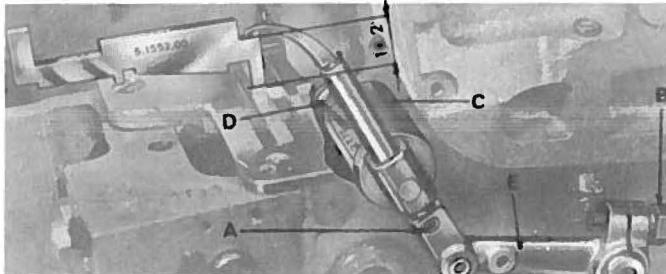

fig. 9
- When the secondary looper has completed its stroke to the left, the distance from the bottom of the looper point to the needle point is  $25/64$  inch (fig. 9).
- Place timing gauge N. S.1552.00 on needle plate as shown in fig. 9.
- To adjust, loosen screw B (fig. 9) and move looper lever E (fig. 9) up or down until looper is set properly.
- Loosen screw B and A (fig. 9).
- With the needle on its downward stroke and the secondary looper starting to move to the right, the ball of the secondary looper touches the needle slightly without deflection. This is accomplished by loosening screws D and B (fig. 9) and moving secondary looper driving assembly complete with bushing C (fig. 9) forward or backward as may be required to obtain the proper setting.
- Special care must be taken when adjusting the secondary looper assembly to maintain a perfect alignment between secondary looper driving arm E (fig. 9) and secondary looper pivot sleeve in bushing C.